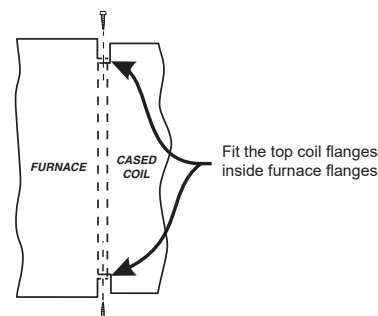

Figure 10
- Attach the coil to the furnace as shown in Figure 9 and Figure 10.